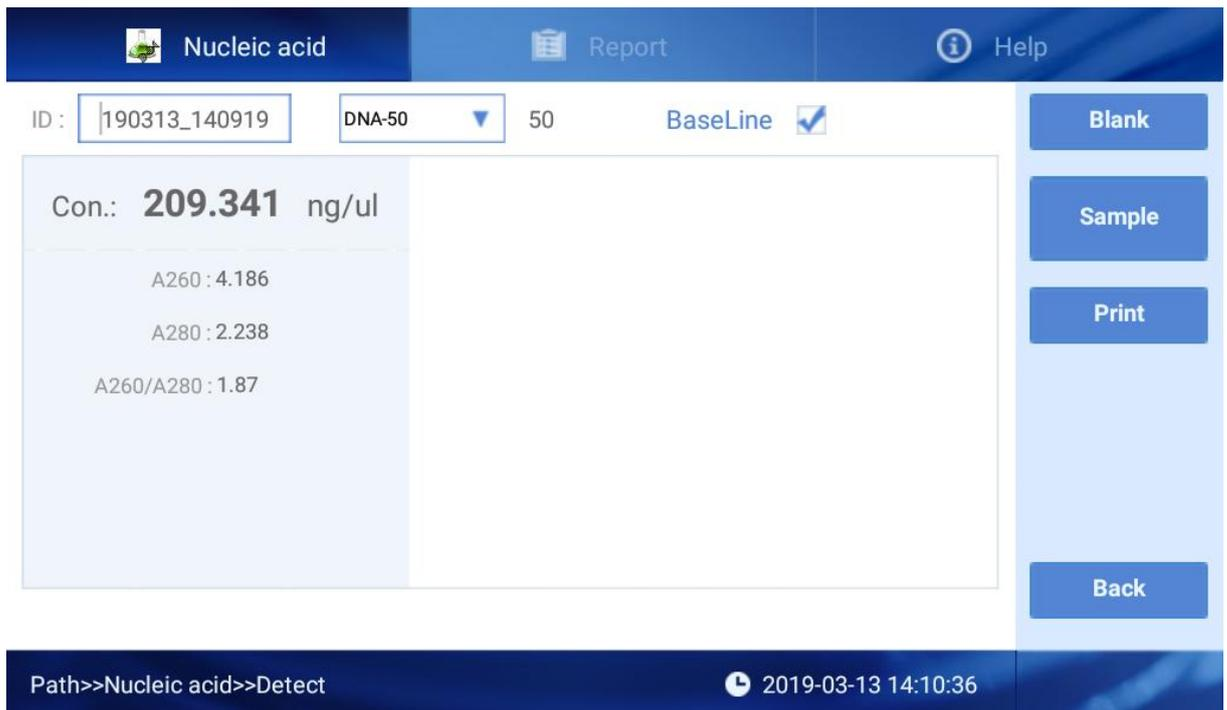

Fig 4.4 Result of Nucleic Acids measurement
- ① Set the batch NO. and Nucleic Acids type;
- ② Clean the upper and lower pedestals with dust proof paper, input the 2 μ L buffer solution to make blank;
- ③ Clean the buffer solution on the lower pedestals with dust proof paper;
- ④ Measure sample with volume of 2 μ L. Click “Sample” and then enter the interface as Fig 4.4;